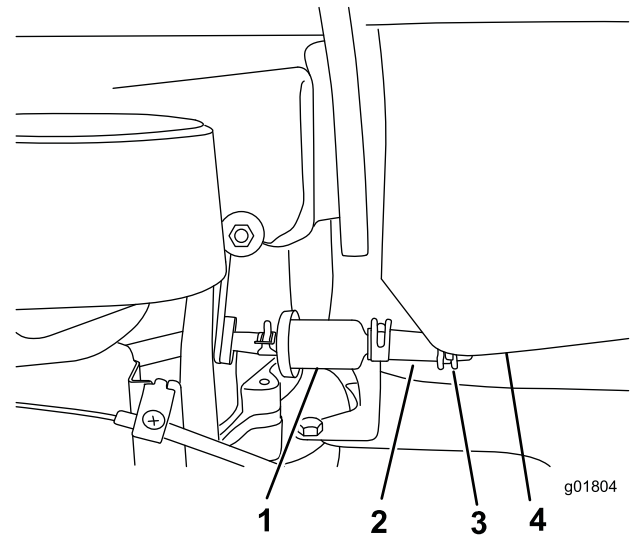

Figure 6
4. Slide the end of the fuel line onto the fuel tank fitting (Figure 6).
5. Secure the fuel line to the fuel tank with the hose clamp (Figure 6).
3. Insert the hose clamp onto the fuel line from the fuel filter (Figure 6).